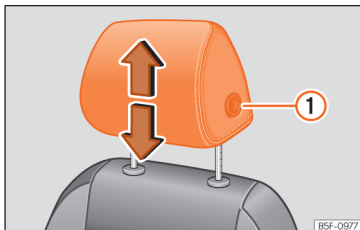
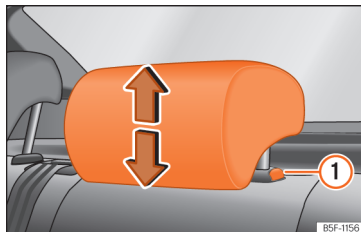

Fig. 119 Front seat: headrest adjustment.
Fig. 120 Rear headrest: headrest adjustment.
- Grab the sides of the headrests with both hands and push upwards to the desired position. To lower it, repeat the same action, pressing the ① » Fig. 119 » Fig. 120 button on the side.
- Press the side button » Fig. 119 ① and remove the headrest.